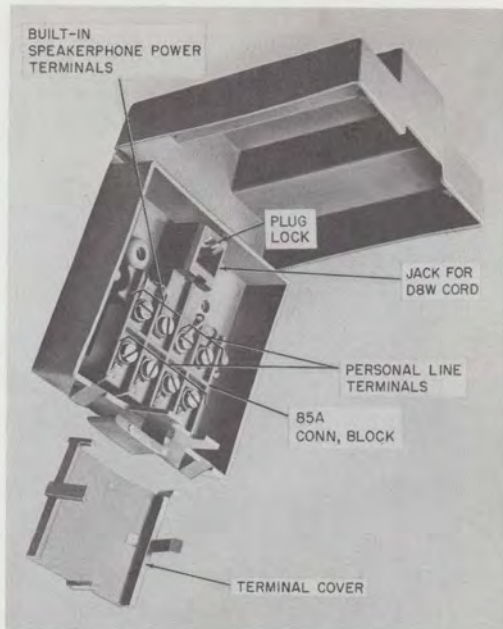

Fig. 13—86A Connecting Block
3.21 Connect each set into the system with the attached D50AW-50 mounting cord; plug its free end into its assigned bridging adapter or extension cable. The BIS satellite desk stations require an additional connection to provide power for the built-in speakerphone. Mount the 86A block (Fig. 13) supplied with each BIS set in a convenient place near the station, and plug the D8W-50 cord extending from the back of the set into it. Use inside wire to connect terminals 7 and 8 of the 86A block to the 2012D transformer supplied with the set. **Do not plug the 2012D into an ac receptacle until all installation is complete.**